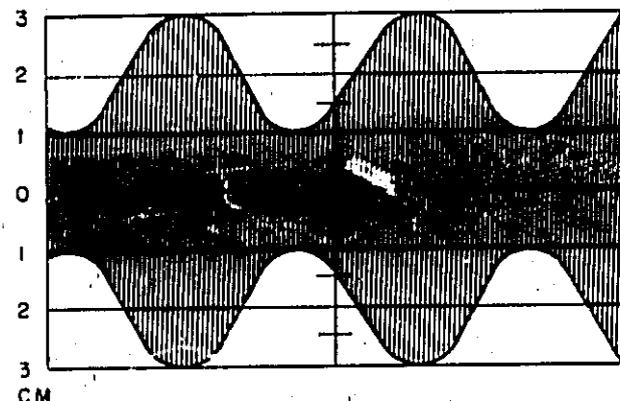

Figure 5-6. Waveform for 50% Modulation
- h. Adjust MODULATION AMPLITUDE control until Oscilloscope indicates that maximum deflection is exactly 6 cm high; see Figure 5-6.